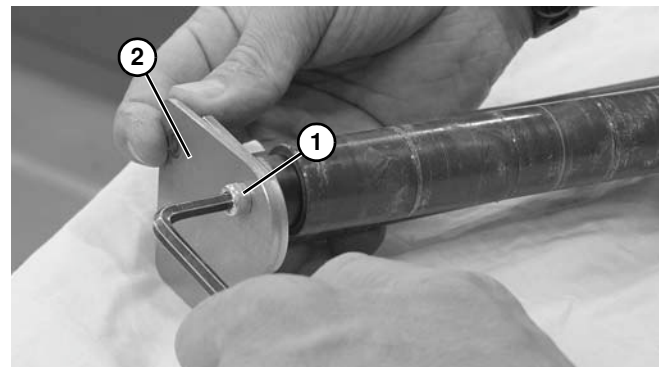

Figure 81
3. Remove screw (Figure 81, item 1) and head plate (Figure 81, item 2).